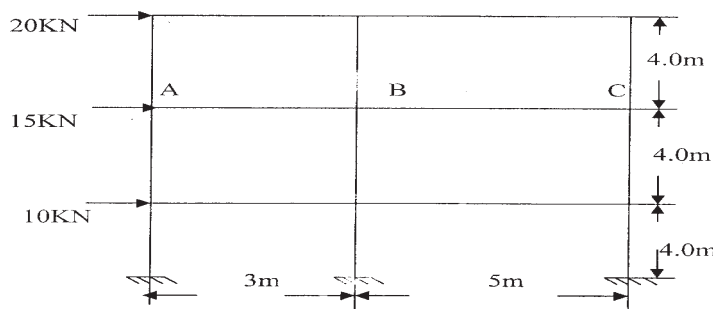

Fig. 2
b) Analyse the multistoried building frame as shown in fig. 2 by portal method for lateral loads. The dead load and total design load acting on beam AB are 13 kN/m and 28 kN/m respectively and 19 kN/m and 42 kN/m over beam BC. The relative stiffness of beam is double than the column stiffness. Analyse the beam ABC for vertical load by substitute frame method. Calculate maximum span moment at BC and support moment at B. Design beam section (BC) for combined effect of vertical and horizontal loads. 10% redistribution of moments is permitted for vertical load moments. Use M20 & Fe415. [17]